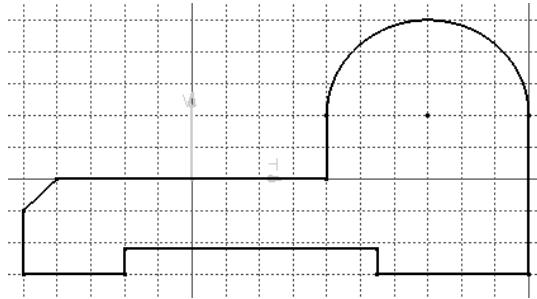

Figure 2-51 The completed outer loop of the sketch
- b. Draw the sketch of the model using the **Line**, **Arc**, and **Circle** tools, refer to Figures 2-51 and 2-52.
22. Choose the **Fit All In** button from the **View** toolbar to fit the current sketch into the screen. The completed outer loop of the sketch is shown in Figure 2-51. Note that in this figure, the display of constraints and dimensions is turned off using the **Hide/Show** tool for clarity.